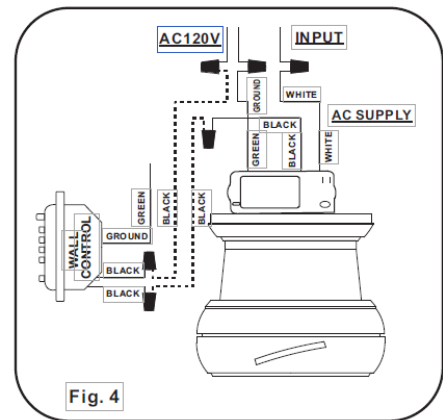

Fig. 4
Step 2. Make the electrical connections as shown in Fig.4. If your outlet box has a ground wire (Green or Bare Copper), connect the Transmitter's ground wire directly to one of the screws from the outlet box. Secure all wire connections with the plastic wire nuts provided.